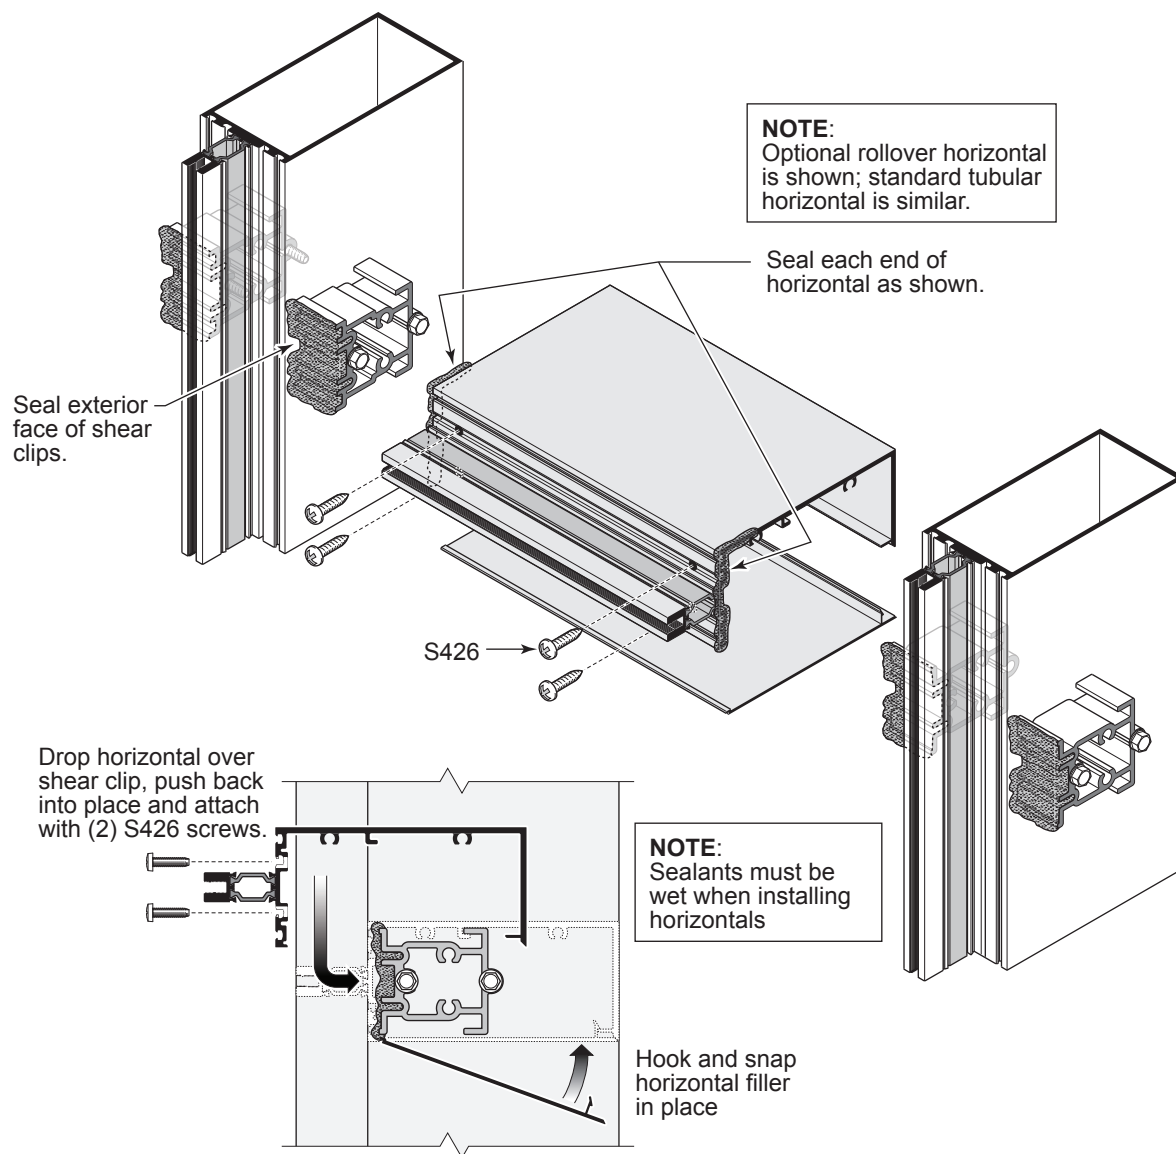

Fig. 36.1
- Seal shear clip prior to installing the horizontal member. See **Fig. 36.1**.